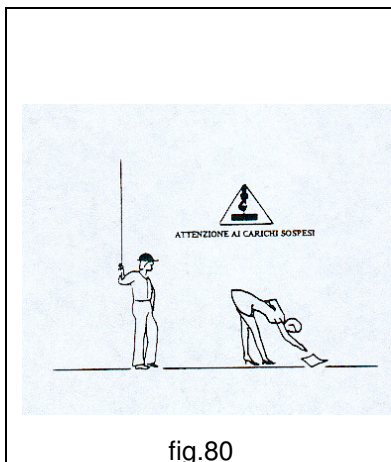

fig.80
- **NEVER** operate without taking the necessary care during lifting and travelling of the trolley and rotation of the arm maneuvers (fig.80).